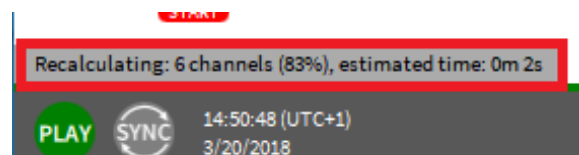

Fig. 7.177: Progress indicator for Offline Math calculations
- A *Progress indicator* will inform about the actual calculation progress (see Fig. 7.177) and contains information about the number of calculated channels, the calculation progress in percent and the remaining calculation time: